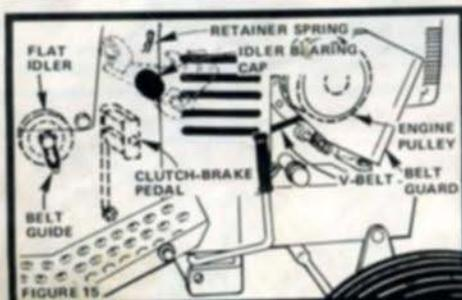

FIGURE 15
A new V-Belt may stretch after the first few hours of operation. If Clutch-Brake Pedal, in drive position (Fig. 15), is considerably to the front or rear of the vertical position, the V-Belt is out of adjustment and must be re-tensioned.
- Idle Bearing (Fig. 15)
- Remove Spark Plugs and Belt Guard and turn Engine Pulley (Fig. 15) clockwise by hand until 21°BTC mark on gear cover aligns with mark on flywheel. Turn another 1/4 turn to ensure points are fully open.